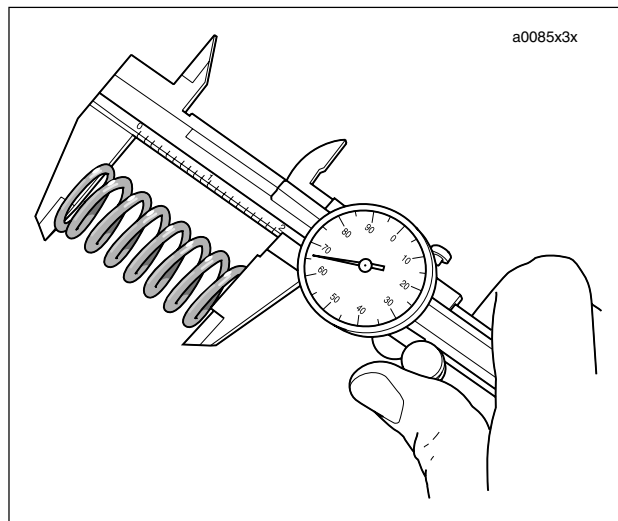

Figure 3-56. Checking Spring Free Length
2. See Figure 3-56. Check free length and compression force of each spring. Compare with 3.1 SPECIFICATIONS. If spring length is shorter than specification or if spring compression force is below specification, replace spring.